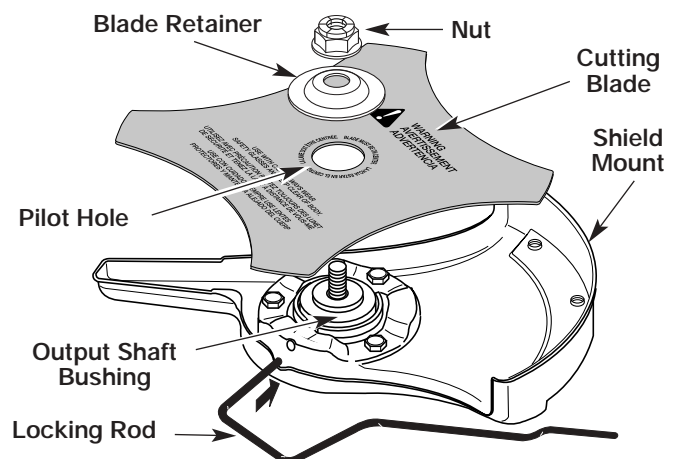

Figure 11
4. Place the cutting blade on the output shaft bushing. See Figure 11.